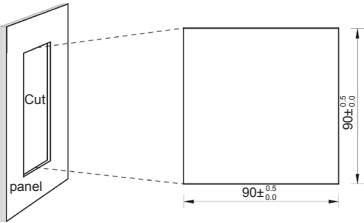

Fig 2.3 Panel Cutting
1. First, cut a square hole on the panel of the switch gear. The cutting size is in fig 2.3 Unit (mm)